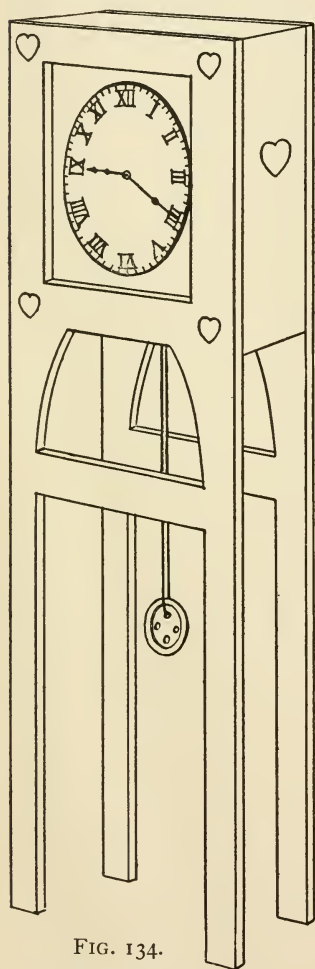

FIG. 134.
**The Grandfather's Clock** (Fig. 134) makes an effective piece of furniture for the hall or living-room, and is easily made. Figure 124 shows the pattern for the front of this clock. The back is made the same, with the omission of the square opening cut in the front frame for the clock-face. Cut a block of wood two by two by three-